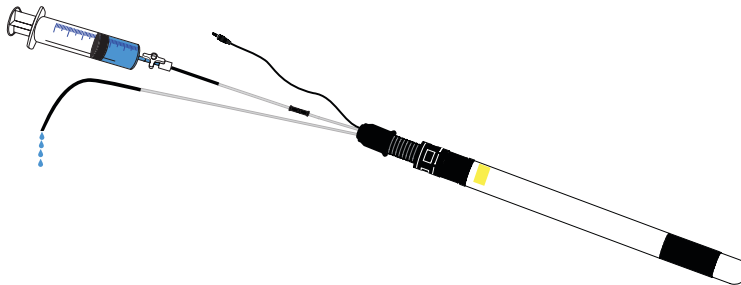

Figure 10 Teros 32 refilling
9. For a downward installation, connect the syringe to the marked refilling tube from TEROS 32 (Figure 10).
Continue to push the water into the sensor until only water comes out of the other refilling tube (Figure 10).